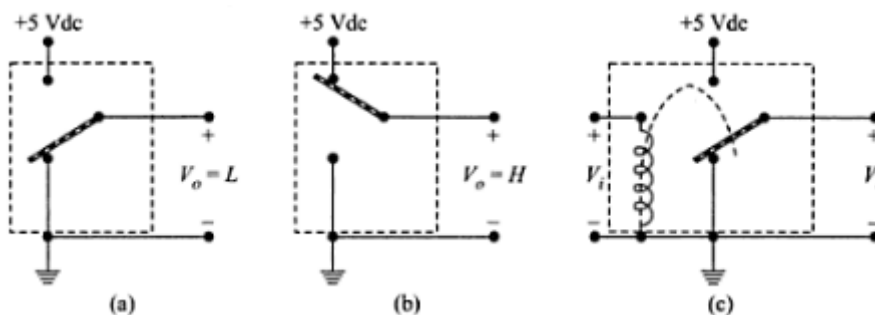

Figure 1.7: (a)Switch (b)Switch (c)Normally low relay
- A *relay* is a switch that is actuated by applying a voltage  $V_i$  to a coil (Figure: 1.7).